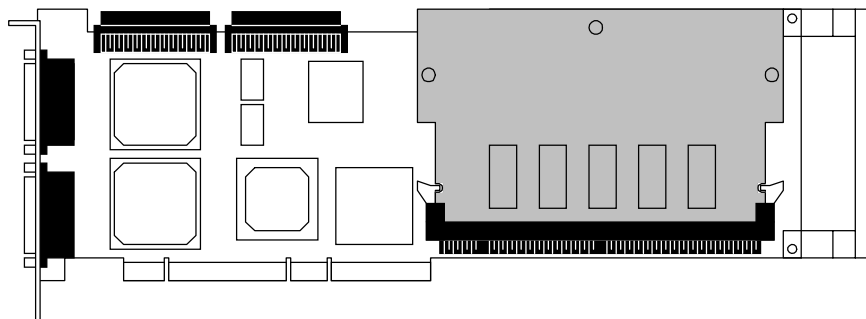

Figure 3-5
- ! **Insert BDIMM board until the lever at both ends of the memory slot shut. (See Figure 3-5)**